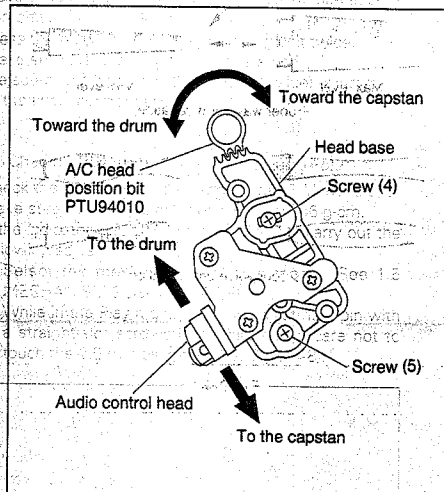

Fig. 2-4-6
- Loosen screws (4) and (5) so that the A/C head position bit (PTU94010) is set as indicated in Fig. 2-4-6.
- Turn the A/C head position and first move the audio control head fully up to the capstan head. Then gradually return the audio control head toward the drum and stop it where the FM waveform reaches its maximum for the first time. Then tighten screw (4) temporarily.
- If it is not at maximum, loosen the temporarily tightened screw (4) and turn the A/C head position bit to bring the audio control head to a position, around where the waveform reaches its maximum for the first time. Then tighten screws (4) and (5).